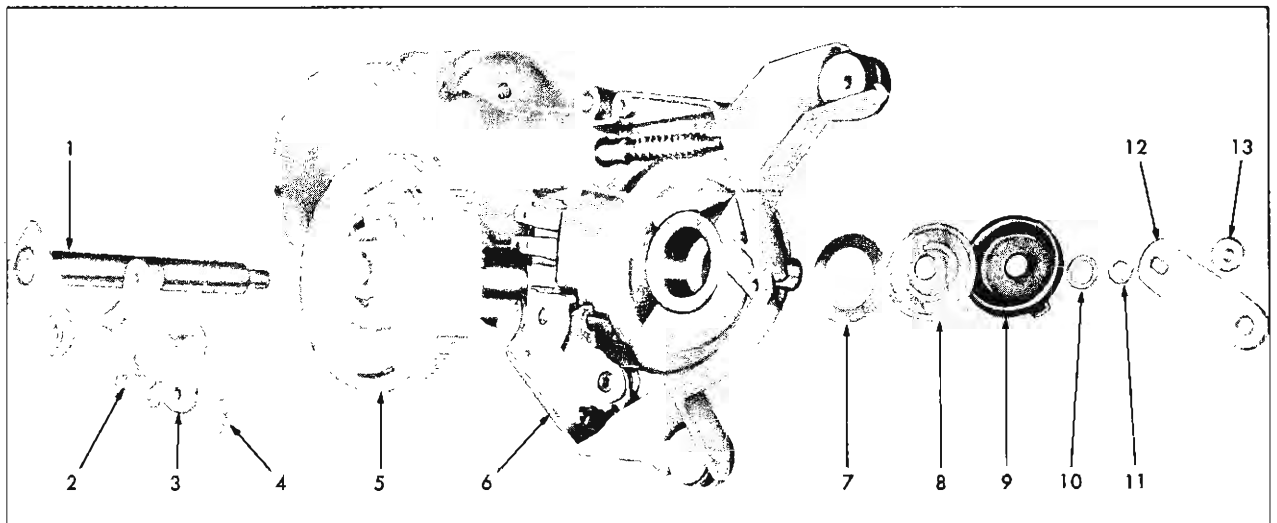

Fig. 69—Drive Gear Mechanism Assembly
#### B—Drive Gear Disassembly (fig. 69)
7. Reassemble the outer spacer washer, shield, shim washers as required to obtain .005" max. end play, snap ring and rubber seal cap in the order indicated. Refer to Figure 69.